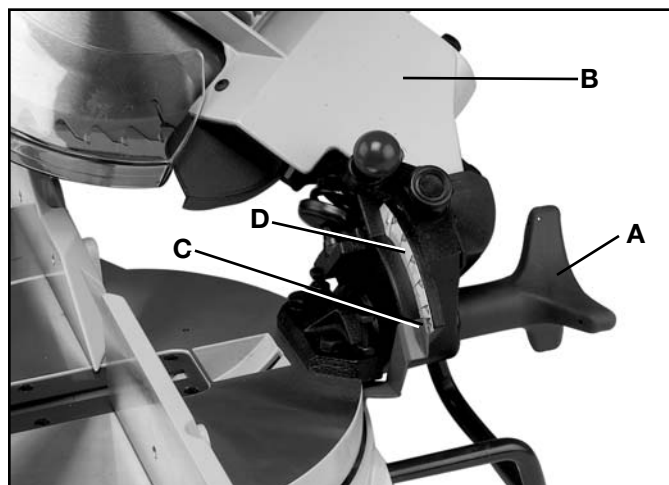

Fig. 17
The cuttinghead of your compound miter saw can be tilted to cut any bevel angle from a 90° straight cut-off to a 45° left bevel angle by loosening bevel lock handle (A) Fig. 17, tilting cutting arm (B) to the desired angle and tightening lock handle (A).
Positive stops are provided to rapidly position the saw blade at 90° (0° on scale) and 45° to the table. Refer to the section of this manual titled “**ADJUSTING 90° (0° on scale) AND 45° BEVEL STOPS**”. The bevel angle of the cutting arm is determined by the position of the pointer (C) Fig. 17, on the scale (D).